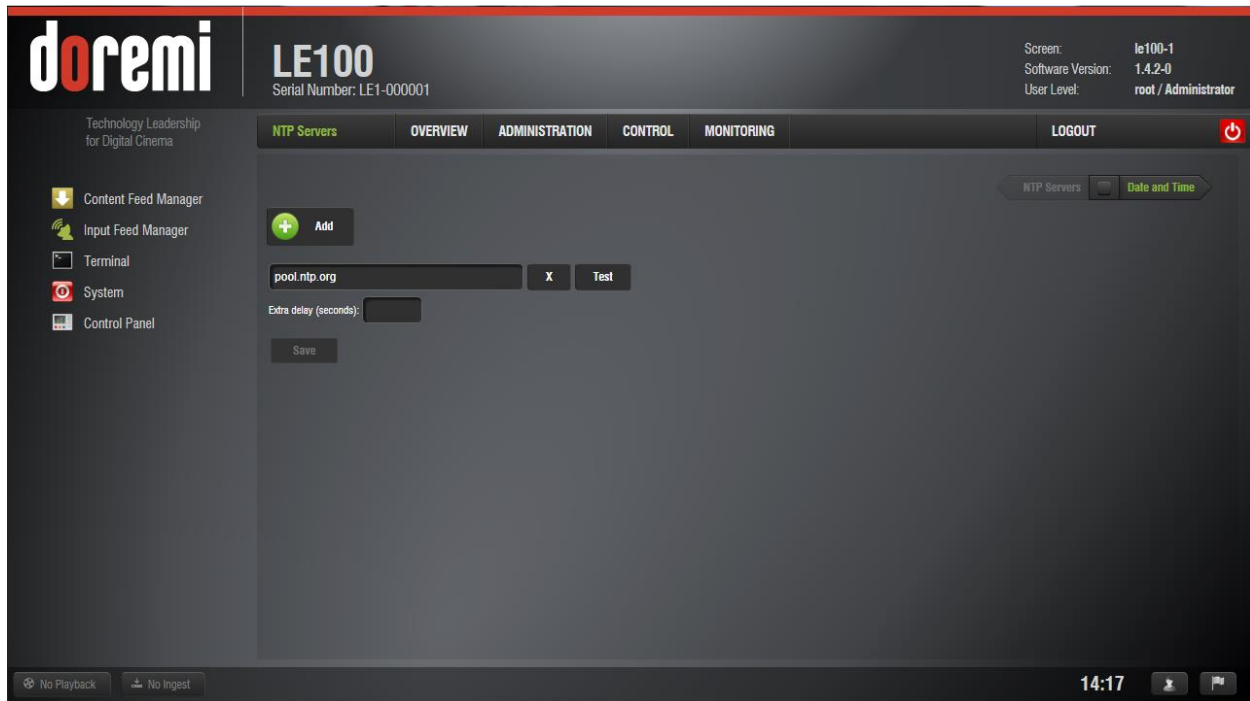

Figure 8: NTP Servers
- To add or remove NTP Servers, click on the Administration tab, select Control Panel and then, under Time Settings, select NTP Servers (see Figure 8).
- If the user decides to cancel the NTP addition, then click on the X next to the naming field (see Figure 8).